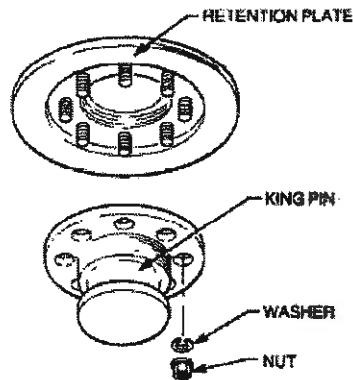

Figure 43 King Pin and Retention Plate
- a. Remove the eight nuts and washers securing the king pin to the retention plate (Figure 43).